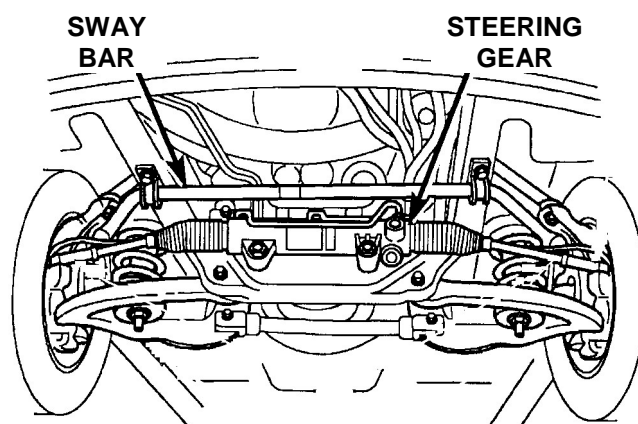

Figure 2
13. Remove the steering gear assembly retaining bolts and lower the assembly (Figure 2).
14. Remove the sway bar-to-frame attaching bolts and lower the sway bar (Figure 2).
83. Install the sway bar-to-frame mounting bolts (Figure 2). Tighten the bolts to 45 ft-lbs (61 N·m).
84. Install the steering gear assembly (Figure 2). Tighten the mounting bolts to 235 ft-lbs (319 N·m).